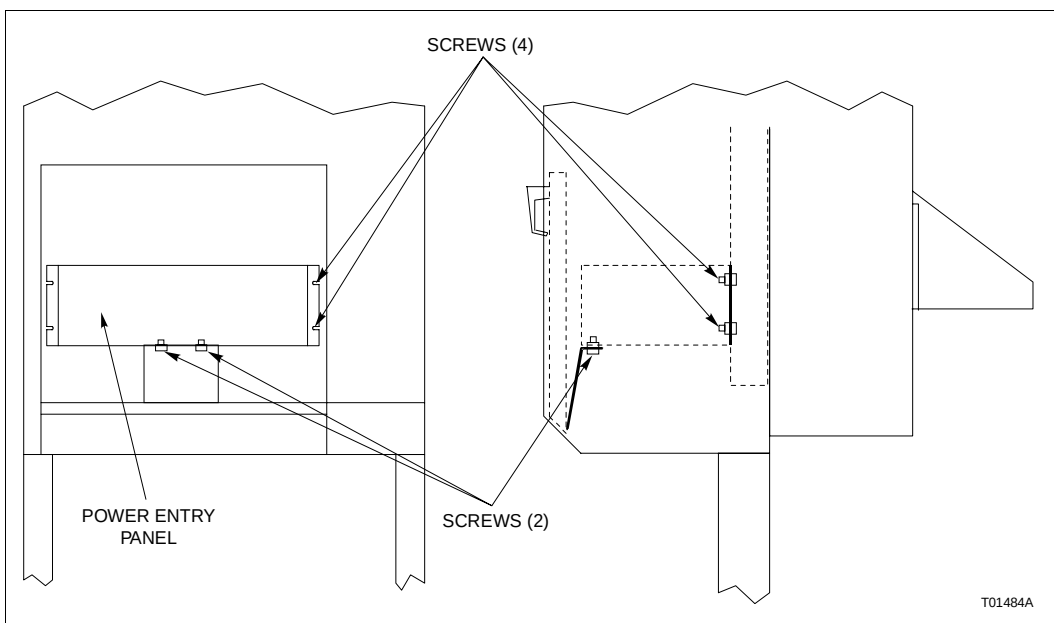

Figure PR25-5. Environmental Model PEP Installation
- ☐ 8. Use the bladed screwdriver to install the four screws around the PEP. (Fig PR25-5).